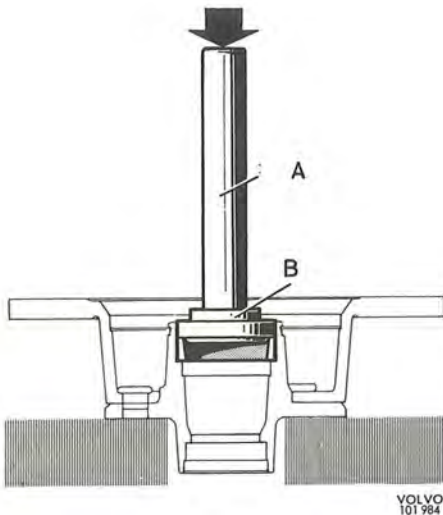
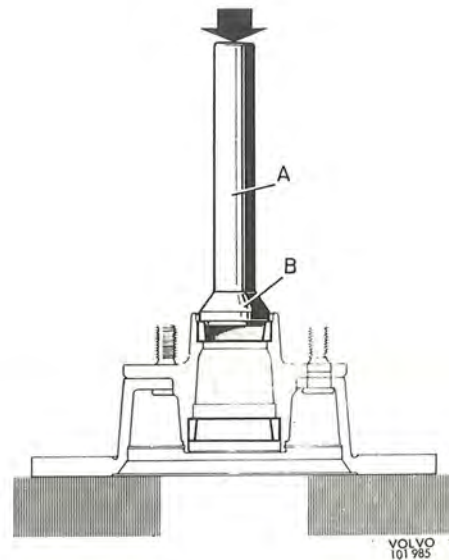

Fig. 7-18. Fitting the inner bearing ring
Fig. 7-19. Fitting the outer bearing ring
7. Press in the new bearing rings. In addition to using standard handle SVO 1801, use drift SVO 2723 (Fig. 7-18) for the inner ring, and drift SVO 2724 (Fig. 7-19) for the outer bearing ring.